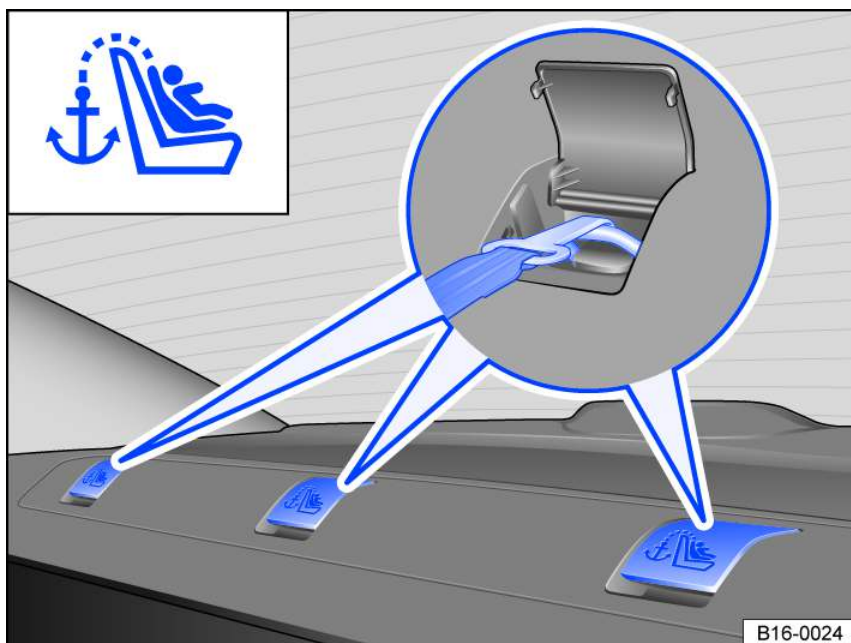

Fig. 36 On the rear side of the rear bench seat: Attached top tether safety belt.
9. Hook the top tether safety belt into the appropriate anchorage marked with “top tether” *fig. 36*.